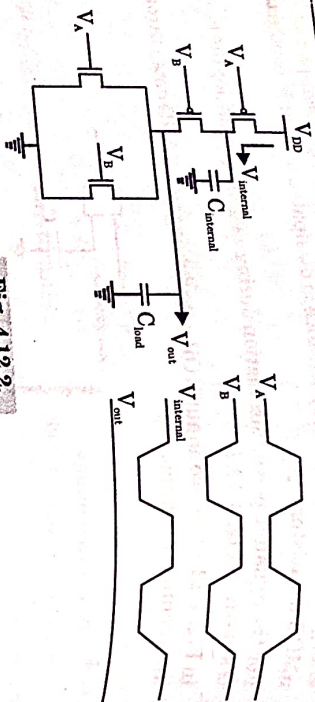

Fig. 4.12.2
11. An internal node may undergo several transitions while the output node voltage of the circuit remains unchanged as shown in Fig. 4.12.2.